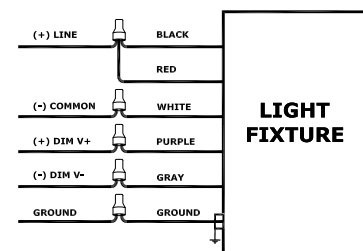

Fig. 7
2. For single circuit operation, black and red wires can be connected together. Follow wiring diagram as in fig. 7.